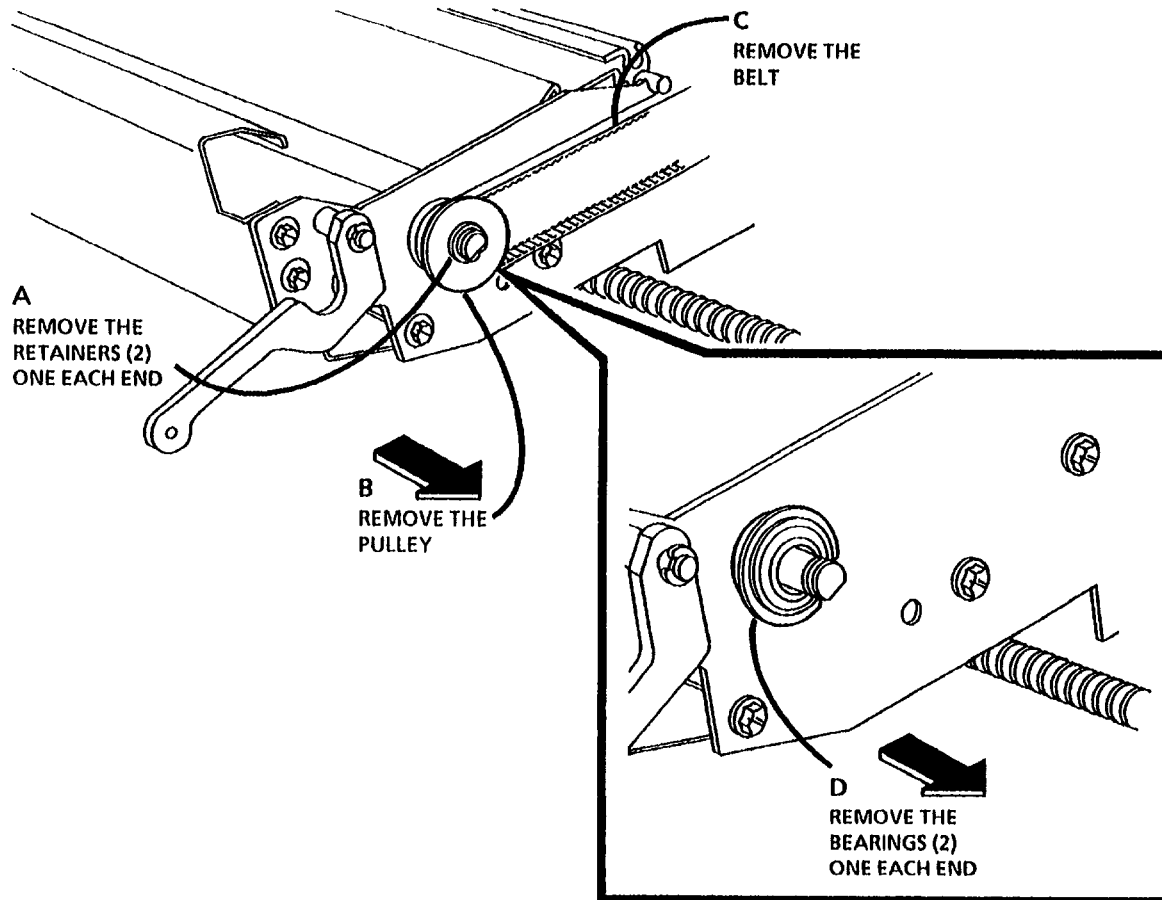

Figure 3. Prepare to Remove the Sheet Drive Roll
8. (Figure 3): Prepare to Remove the Sheet Drive Roll.